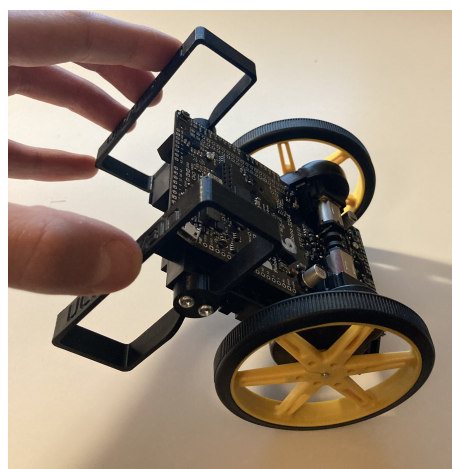

Figure 14: The robot is put on balance position.
5. Gently put the robot on balance position such as illustrated in Figure 14, and see the magic happening!